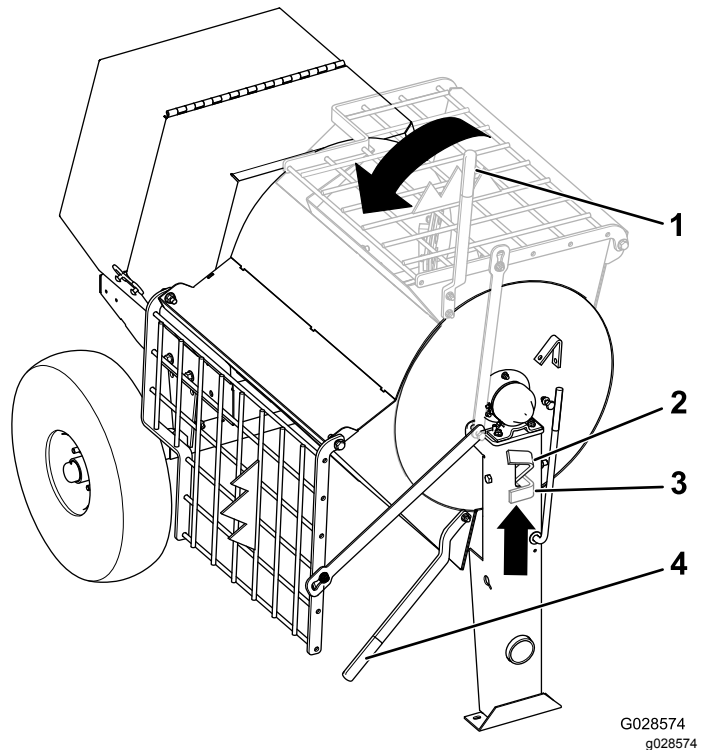

Figure 32
2. Grasp the dump handle with your left hand (Figure 32).
3. Lift the handle of the drum latch (Figure 32).
4. With both hands on the dump handle, rotate it counterclockwise to discharge the contents of the drum (Figure 32).
5. Rotate the dump handle **clockwise** until the drum latch locks the drum in the upright position (Figure 32).